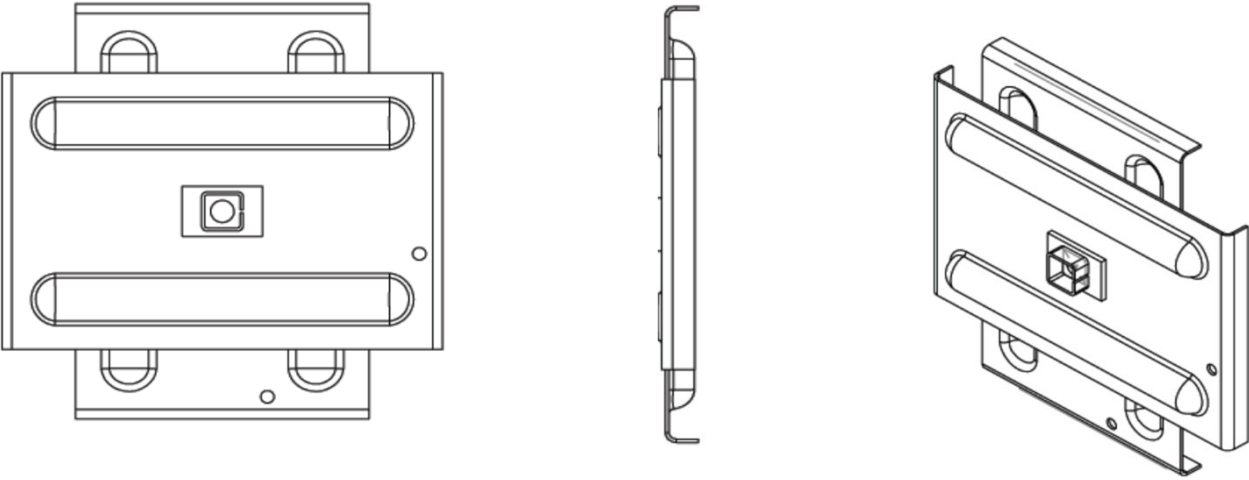

Figure 5 - Exterior Soil Anchor
Exterior Soil Anchor - The exterior soil anchor is part of an assembly made from two (2) pieces of formed steel plate. See Table 2 for more details. The soil plate is hot dipped galvanized in accordance with ASTM A123M. See Figure 5.